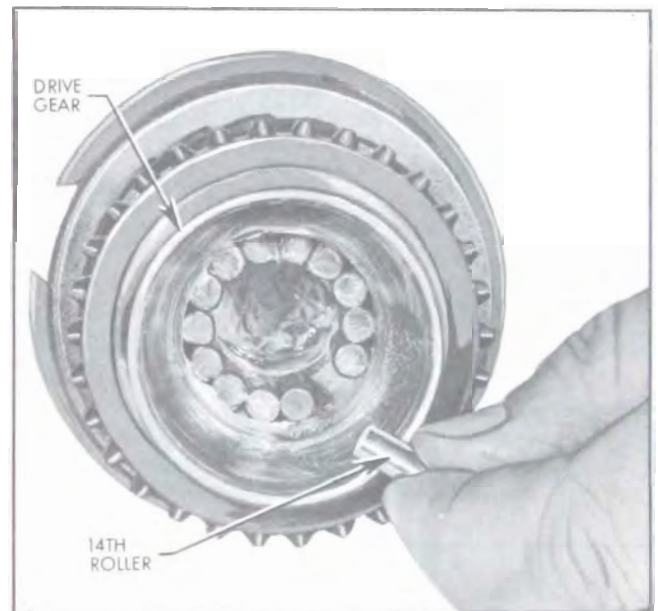

Figure 4-31—Loading Bearing Rollers in Drive Gear
10. Insert 14 bearing rollers in drive gear. Hold in place using heavy grease. See Figure 4-31.